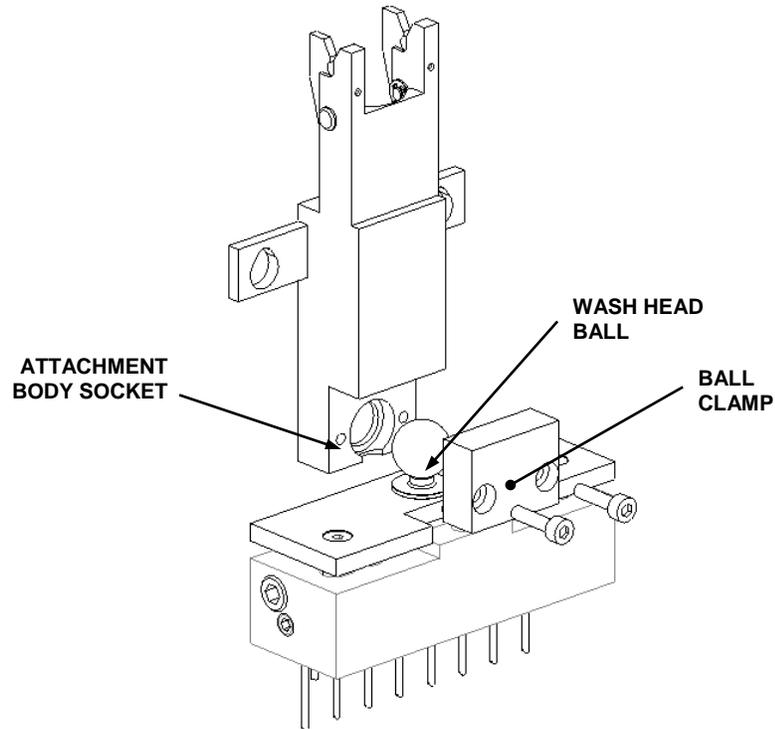

Figure 13-10: Removing the Wash Head from the Attachment Body
1. Remove the Wash Head From the Attachment Body (Figure 13-10).